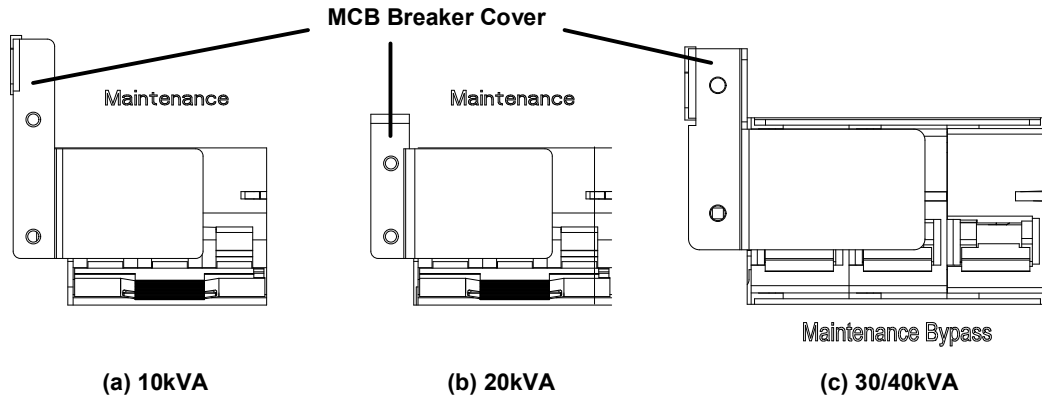

Figure 5-2 Remove the cover
- (1) Transfer the UPS into Bypass mode as per the chapter 5.3.2.
- (2) Remove the cover of maintenance bypass breaker as shown in
- (3) Figure 5-2.